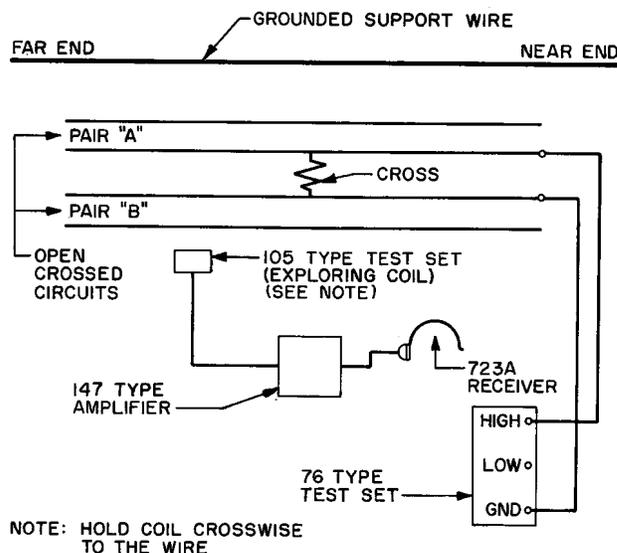

Fig. 3 — Locating Crosses
6.02 When sides of two or more pairs are crossed, isolate the fault to a particular section of wire, refer to Fig. 3 and proceed as follows: